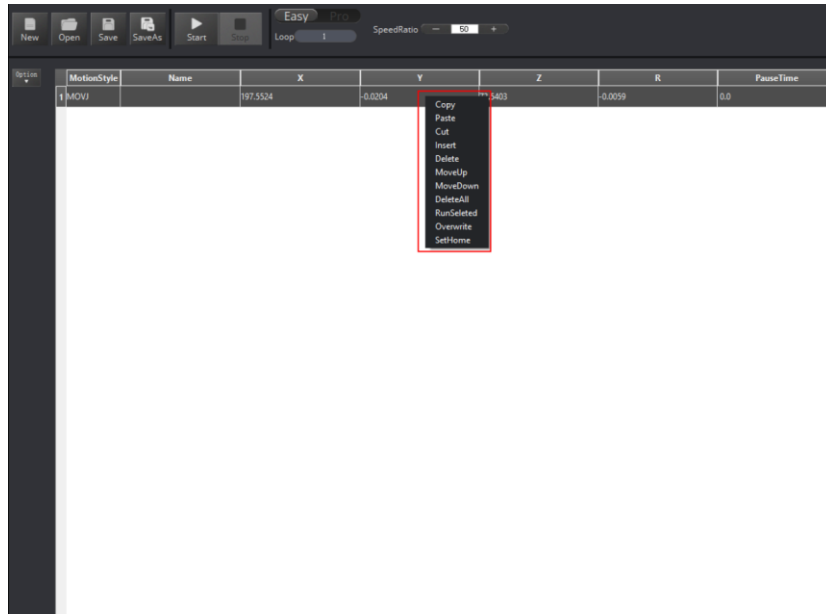

Figure 5.16 The Save points list
- In both **Easy** and **Pro** modes, you can edit a highlighted save point such as copy, paste, cut, switch between motion modes, modify name and coordinates, as shown in Figure 5.16.
A right-click mouse operation	In the right-click popup menu you can edit a highlighted save point such as copy, paste, cut, insert, and delete, as shown in Figure 5.16